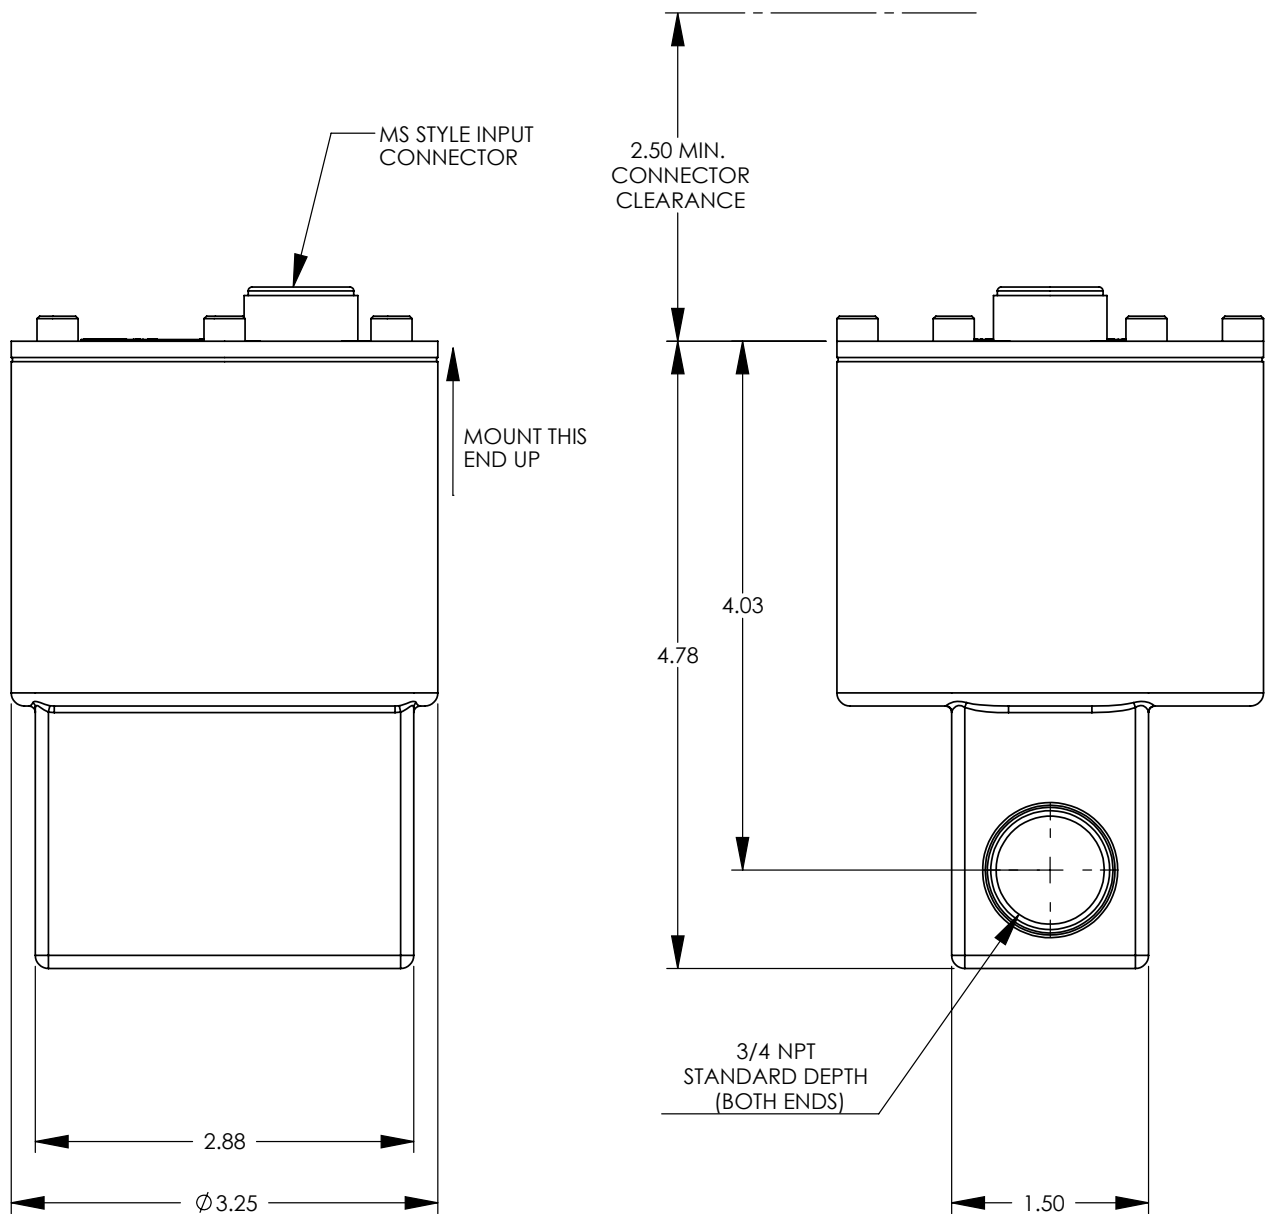

FIG. 2 Part Breakdown and Identification – 3/4" Fuel Control Valve
- **Maintenance Log** – To facilitate troubleshooting and to establish service schedules, a maintenance log should be kept on the Gas Control Valve. Throughout this manual, service parts will be identified by the figure number and item number assigned in the parts list. Items will be referred to by the figure number followed by a hyphen and the item number that it refers to. For example, (2-5) and its position on the Gas Control Valve can be found by locating item 5 on FIG. 2 and looking for its description and part number as identified in the table.
9.3 Attach the cover (2-2) to the valve housing (2-1), taking care to properly mount the cover gasket (2-5) between the valve housing and the cover. Secure the cover using the six 10-32 socket head screws (2-9). **See tightening sequence and torque specification on FIG. 2.**